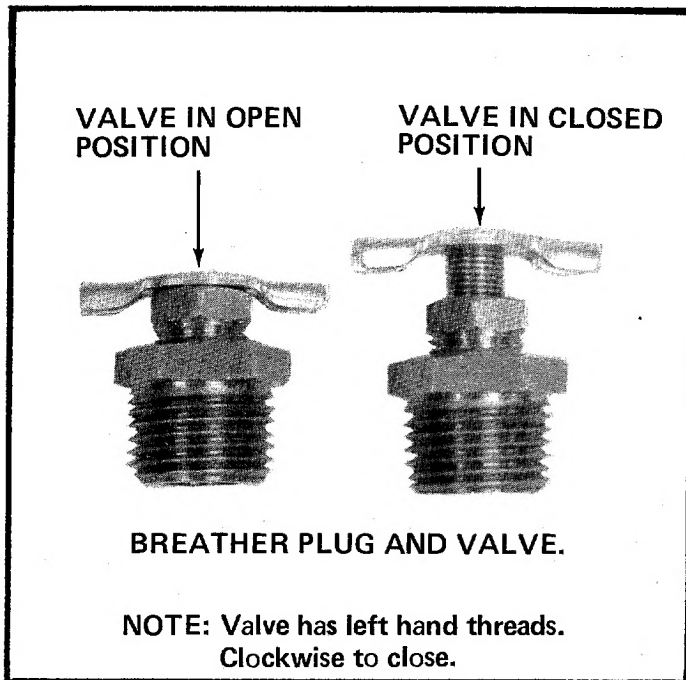

FIGURE 19
3. Open the breather valve. Valve must be open when running log splitter. Valve must be closed when transporting log splitter. See figure 19.